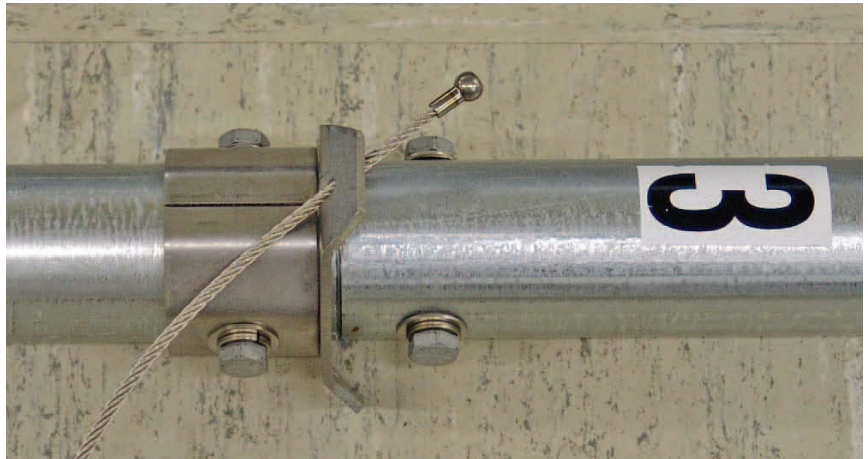

FIGURE 3-12. Mast Section 3 and guy ring/collar assembly
Step 10: Slide coupler into Section 2 mast and assemble collars, as shown in FIGURE 3-12.